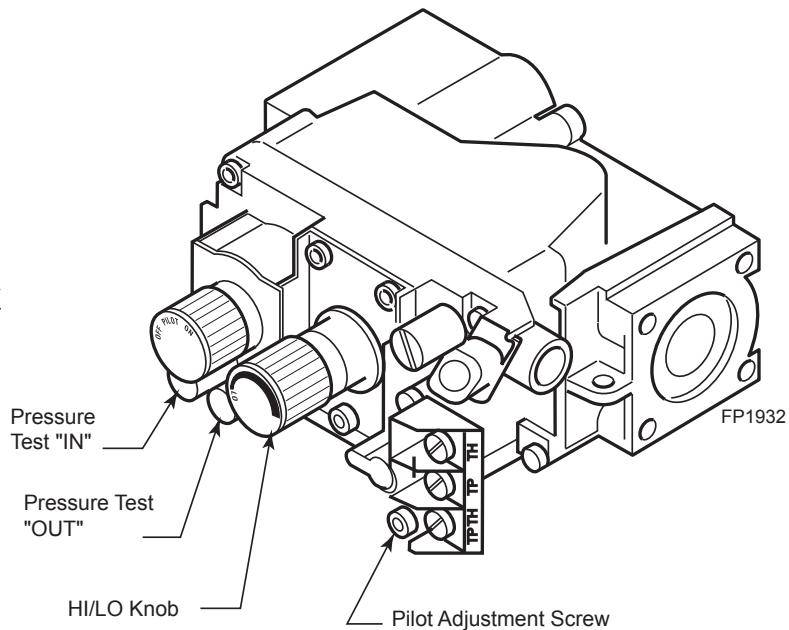

Figure 13 -
5. To check gas pressures at valve, turn captured screw counter clockwise 2 or 3 turns and then place tubing to pressure gauge over test point. Turn unit to high. *Figure 13.* After taking pressure reading, be sure and turn captured screw clockwise firmly to reseal. Do not over torque. Check test points for gas leaks with a soap and water solution or an electronic gas leak detector.